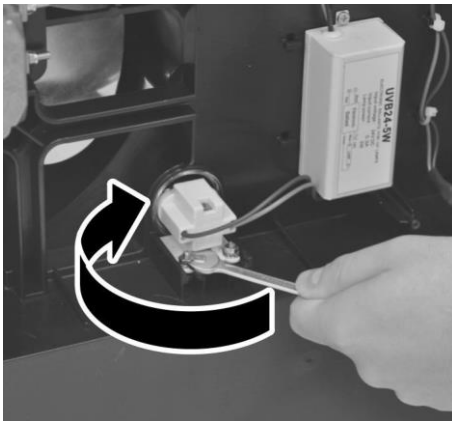

Fig. 38: Tightening the nuts of the lamp holder
- 7.** ▶ Tighten the nuts with a wrench SW 7 (Fig. 38).